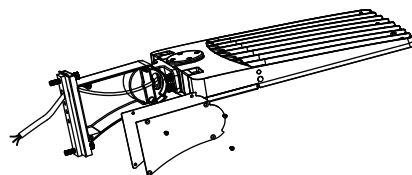

Figure 3
- Step 1: Remove the bracket mounting screws on the fixture open the side lid of bracket and pass the wires through the bracket (Figure 3)